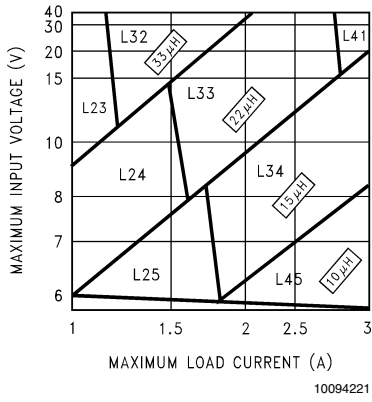
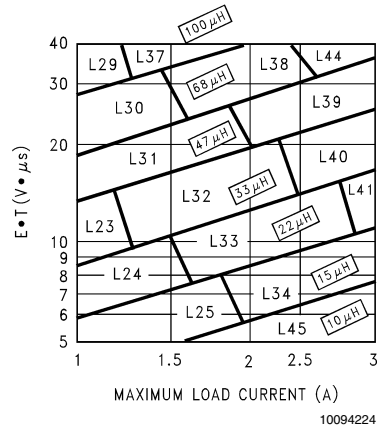

FIGURE 3. LM2670-3.3
FIGURE 6. LM2670-ADJ
**Step 3:** Determine the inductor required by using one of the four nomographs, *Figure 3* through *Figure 6*. Table 1 provides a specific manufacturer and part number for the inductor.
**Step 5:** Determine an input capacitor from Table 4 for fixed output voltage applications. Use Table 2 to find the specific capacitor type. For adjustable output circuits select a capacitor from Table 2 with a sufficient working voltage (WV) rating greater than  $V_{in\ max}$ , and an rms current rating greater than one-half the maximum load current (2 or more capacitors in parallel may be required).
**Step 3:** Use the nomograph for the 3.3V device, *Figure 3*. The intersection of the 16V horizontal line ( $V_{in\ max}$ ) and the 2.5A vertical line ( $I_{load\ max}$ ) indicates that L33, a 22 $\mu$ H inductor, is required.
**Step 3:** To use the nomograph for the adjustable device, *Figure 6*, requires a calculation of the inductor Volt $\cdot$ microsecond constant ( $E \cdot T$  expressed in  $V \cdot \mu s$ ) from the following formula:
Using *Figure 6*, the intersection of  $27V \cdot \mu s$  horizontally and the  $2A$  vertical line ( $I_{load}$  max) indicates that L38, a  $68\mu H$  inductor, should be used.
**Important Note:** When using the adjustable device in low voltage applications (less than  $3V$  output), if the nomograph, *Figure 6*, selects an inductance of  $22\mu H$  or less, Table 6 does not provide an output capacitor solution. With these conditions the number of output capacitors required for stable operation becomes impractical. It is recommended to use either a  $33\mu H$  or  $47\mu H$  inductor and the output capacitors from Table 6.